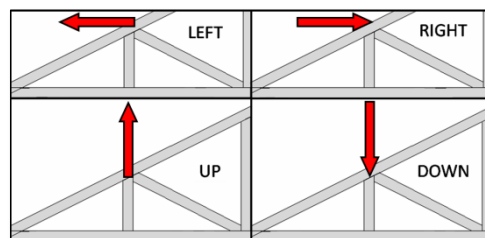
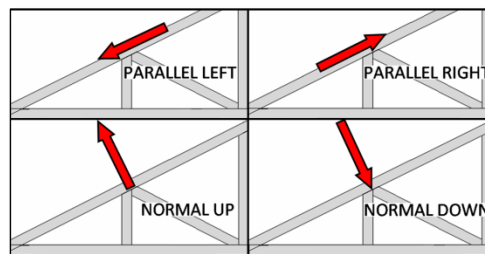

Figure 167: Projected loads.
Figure 168: Rake loads.
- Live distributed loads using the directions *Up*, *Down*, *Left*, or *Right* are assumed to be projected loads. (That is, loads applied relative to the horizontal plane. See Figure 167 at right.) Live distributed loads using the directions *Normal Up*, *Normal Down*, *Parallel Left*, or *Parallel Right* are assumed to be rake loads. (That is, loads applied in line with, or perpendicular to, the angle of the member receiving the load. See Figure 168 at right.)
14. **Dir** – The *Direction* column defines the path along which a load will be applied. The list of potential values in the column's drop-down includes: *Down*, *Up*, *Left*, *Right*, *N Up*, *N Down*, *P Left*, and *P Right*. For more information about the directions in which point loads may be applied, see Figures 167 and 168 on page 144.
22. **Dir** – The *Direction* column defines the path along which a load will be applied. The list of potential values in the column's drop-down includes: *Down*, *Up*, *Left*, *Right*, *N Up*, *N Down*, *P Left*, and *P Right*. For more information about the directions in which point loads may be applied, see Figures 167 and 168 on page 144.
29. **Dir** – The *Direction* column defines the path along which the load will be applied. The list of potential values in this drop-down includes: *Down*, *Up*, *Left*, *Right*, *N Up*, *N Down*, *P Left*, and *P Right*. For more information about the directions in which point loads may be applied, see Figures 167 and 168 on page 144.